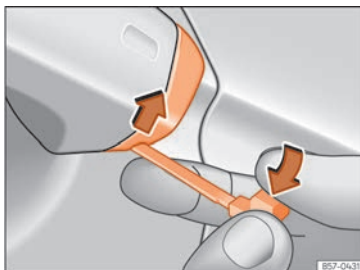

Fig. 56 Driver's door handle: pry the cover open.
- Insert the emergency key into the lower opening in the cover on the driver door handle then lift the bottom cover upwards »» Fig. 56.